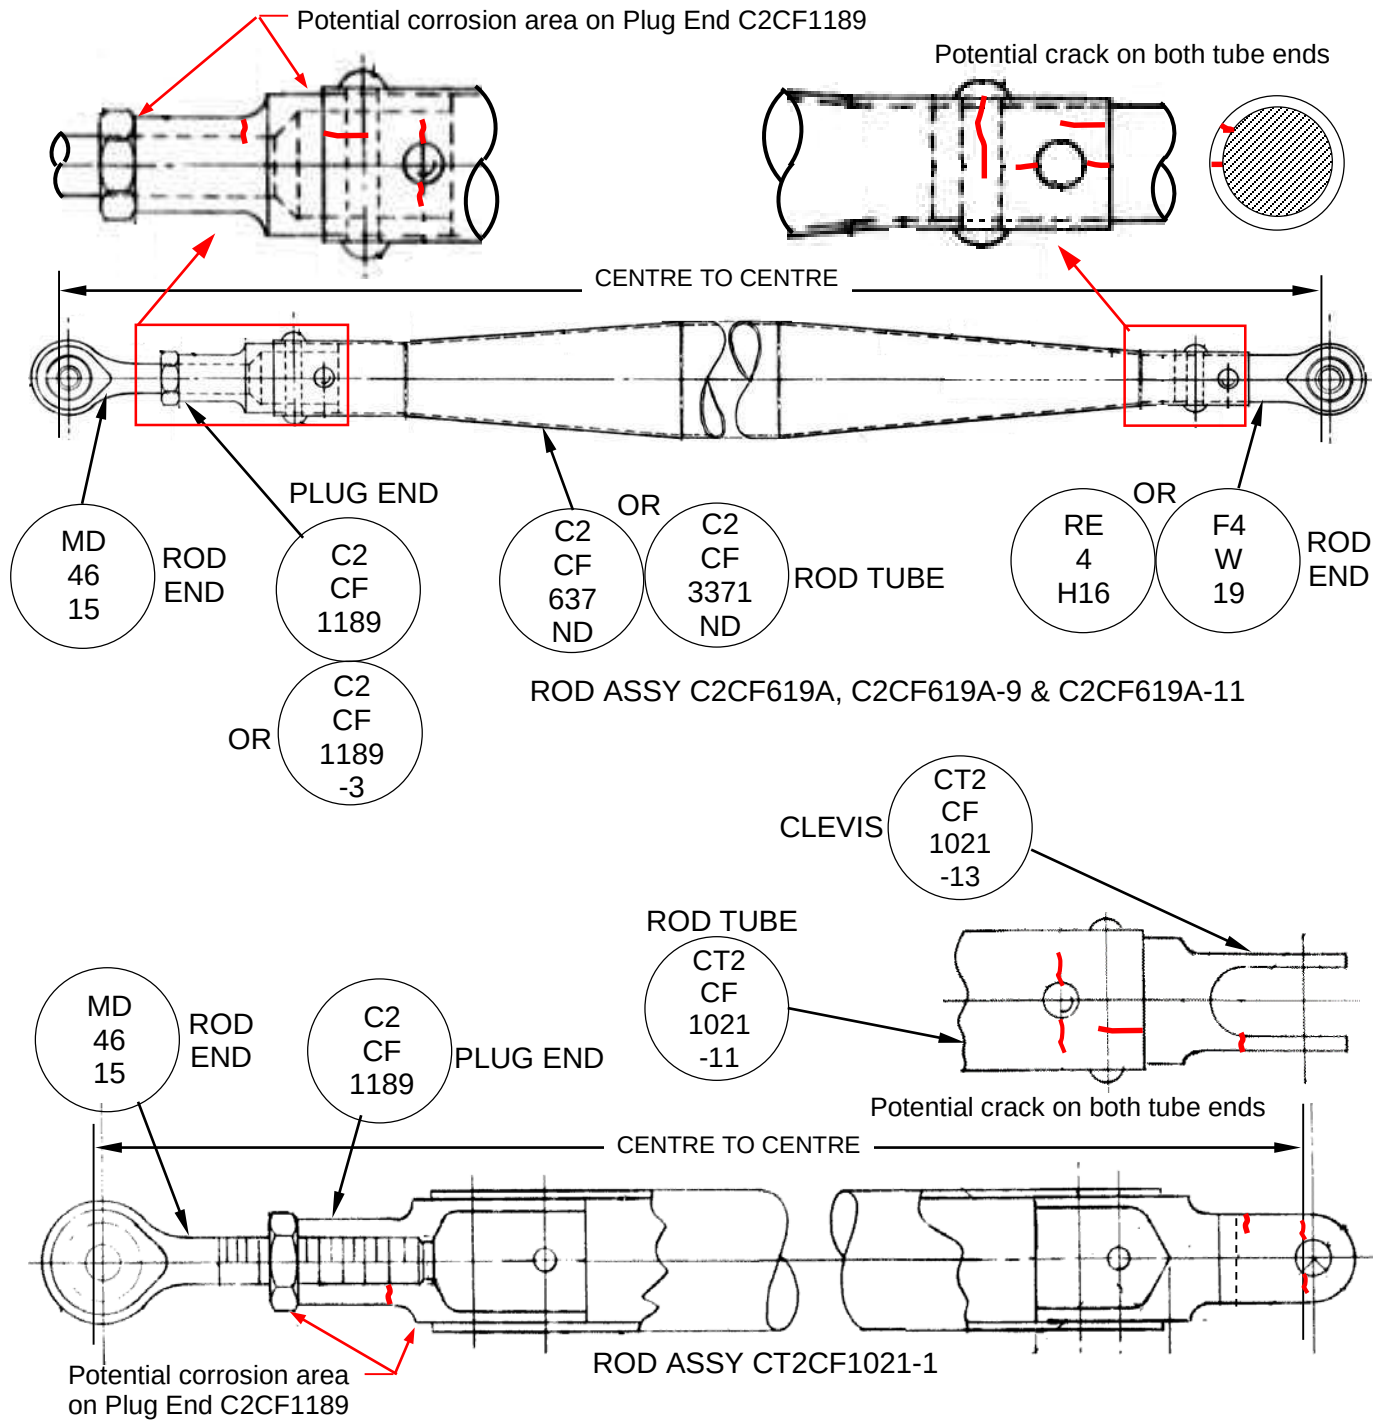

FIGURE 2
- Note: Measure and note the length between the centers of the two rod ends, this will help for final rigging (refer to Figure 2).
Note: Measure and note the length between the centers of the two rod ends, this will help for final rigging (refer to Figure 2).
- (a) Thoroughly clean the entire control rod (including the Plug End (C2CF1189, Figure 2).
- (b) Inspect the C2CF1189 Plug End closely for signs of corrosion, cracking and/or other damage, particularly in the area where the diameter changes, at the mating surface with the steel nut and at the edge of the rod tube (see Figure 2).
- (c) Inspect the rod tube closely for signs of corrosion, cracking and/or other damage, particularly at the rivet attach points and in the area where the tube diameter changes at both tube ends (see Figure 2).